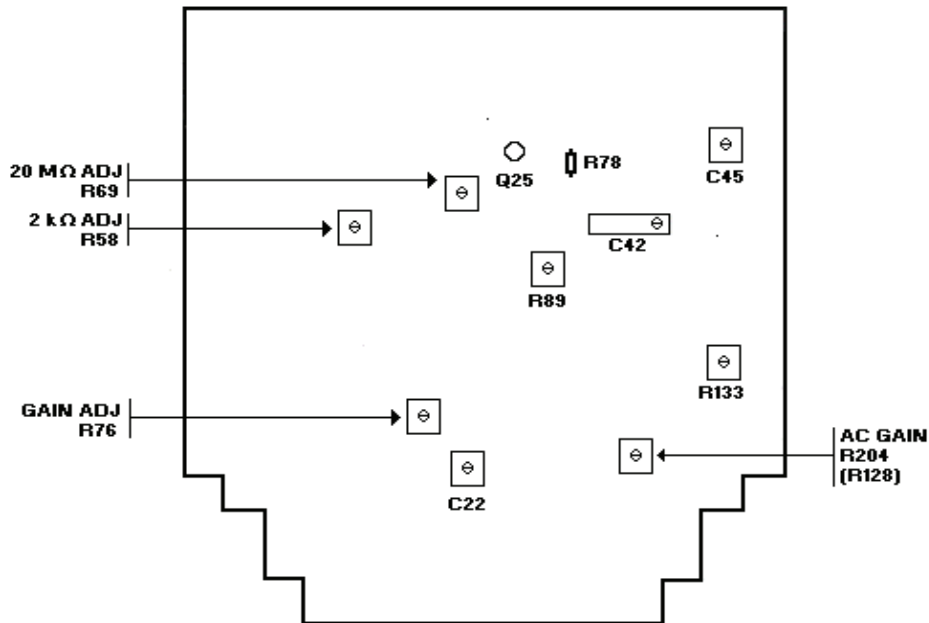

Figure 1. Adjustment locations bottom view (models 3465A and 3465B).
**b. Adjustments.** Adjust GAIN ADJ R76 (fig. 1) for a TI indication of 10.000 ( $\pm 3$  digits) (R).
- (1) Press TI **2 k** pushbutton and disconnect calibrator from TI.
- (2) Short TI **VΩ** and **COM**.
- (3) Connect multimeter to junction of R78 and Q25 (fig. 1). Adjust 20 MΩ ADJ R69 (fig. 1) for a multimeter indication of < 500 μV (R).
- (4) Remove short from TI **VΩ** and **COM** and disconnect multimeter.
- (5) Connect calibrator **OUTPUT HI** and **LO** to TI **VΩ** and **COM**.
- (6) Set calibrator for a 1 kΩ output and **2 wire Comp** on. Adjust 2 kΩ ADJ R58 (fig. 1) for a TI indication equal to calibrator output display rounded to TI digits of resolution (±2 digits) (R).
- (7) Press TI **20 M** pushbutton.
- (8) Set calibrator **2 wire Comp** off and output to 10 MΩ. Adjust 20 MΩ ADJ R69 (fig. 1) for a TI indication equal to calibrator output display rounded to TI digits of resolution (±1 digit) (R).
- (9) Press TI **2 k** pushbutton.
- (10) Repeat (6) through (9) above for best compromise.
- (1) Set calibrator to **STANDBY**.
- (2) Press TI **2** pushbutton.
- (3) Set calibrator for a 1 V, 200 Hz output. Adjust AC GAIN R204 (R128) (fig. 1) for a 1.0000 TI indication (R).
- (4) Set calibrator for a 100 mV, 200 Hz output.
- (5) Press TI **200 m** pushbutton. Adjust R133 (fig. 1) for a 100.00 TI indication (R).
- (6) Press TI **2** pushbutton.
- (7) Set calibrator for a 100 mV, 20 kHz output. Adjust C45 (fig. 1) for a .1000 (±1 digit) TI indication (R).
- (8) Press TI **200 m** pushbutton. Adjust C42 (fig. 1) for a 100.04 (±1 digit) TI indication (R).
- (9) Press TI **20** pushbutton.
- (10) Set calibrator for a 10 V, 20 kHz output. Adjust C22 (fig. 1) for a 10.008 (±1 digit) TI indication (R).
- c. Set calibrator for a 1 V dc output. If TI does not indicate 1.0000, adjust R89 (fig. 1) for a 1.0000 TI indication (R).